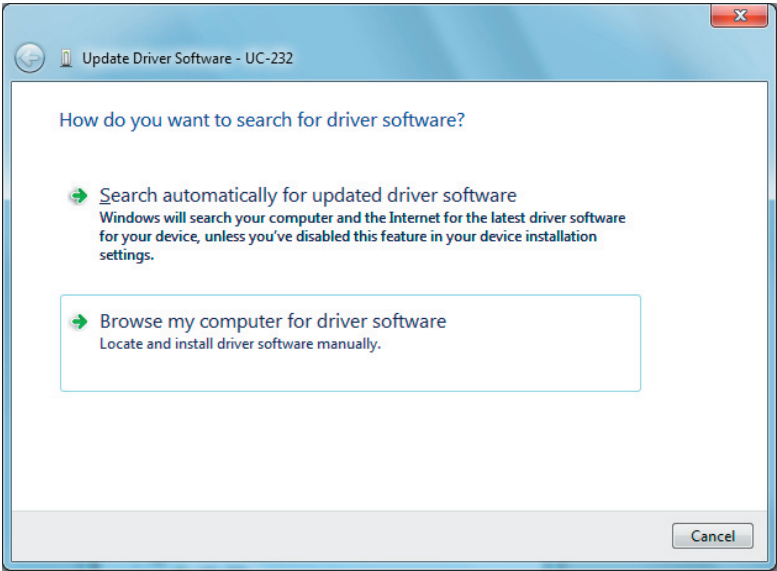

Fig. 12. Update Driver Software Procedure.
- 5) This then displays the option for an automatic search or a manual search. Select the second option to browse manually (see Figure 12).